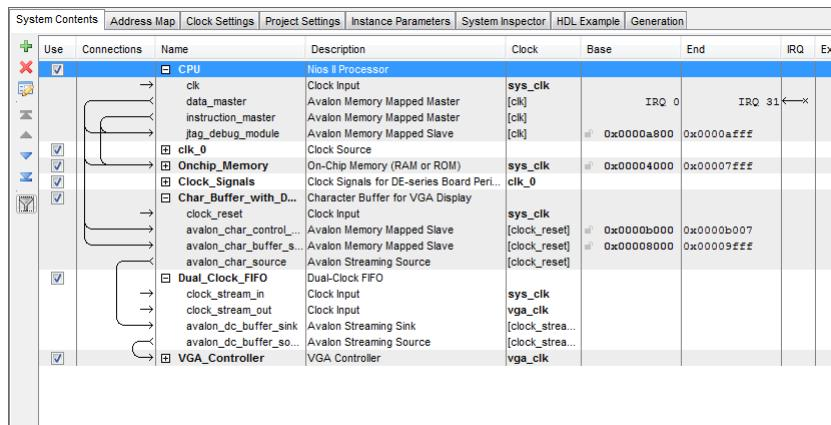

Figure 1. Character display example's Qsys system
In this example, drawing characters on the screen is implemented using the system shown in figure 1. To display a character on the screen, users must specify the character location to the Character Buffer IP core. Once specified, the character buffer renders an image of each character and sends it to the Dual-Clock (DC) FIFO core. The DC Fifo buffers part of an image to be displayed on the screen until the VGA IP core is ready to display it. When the VGA cores is ready, the image will be displayed on the screen. It is important to note that in this example the VGA IP core and the character buffer operate at different clock frequencies. This is because the VGA IP Core needs to run at 25 MHz to properly display an image on the screen, while the Character Buffer was connected to the system clock, which runs at 50 MHz. To allow both components to work together, the Clock Signals core generates the appropriate clocks, and the DC FIFO facilitates reliable communication between the two IP cores.